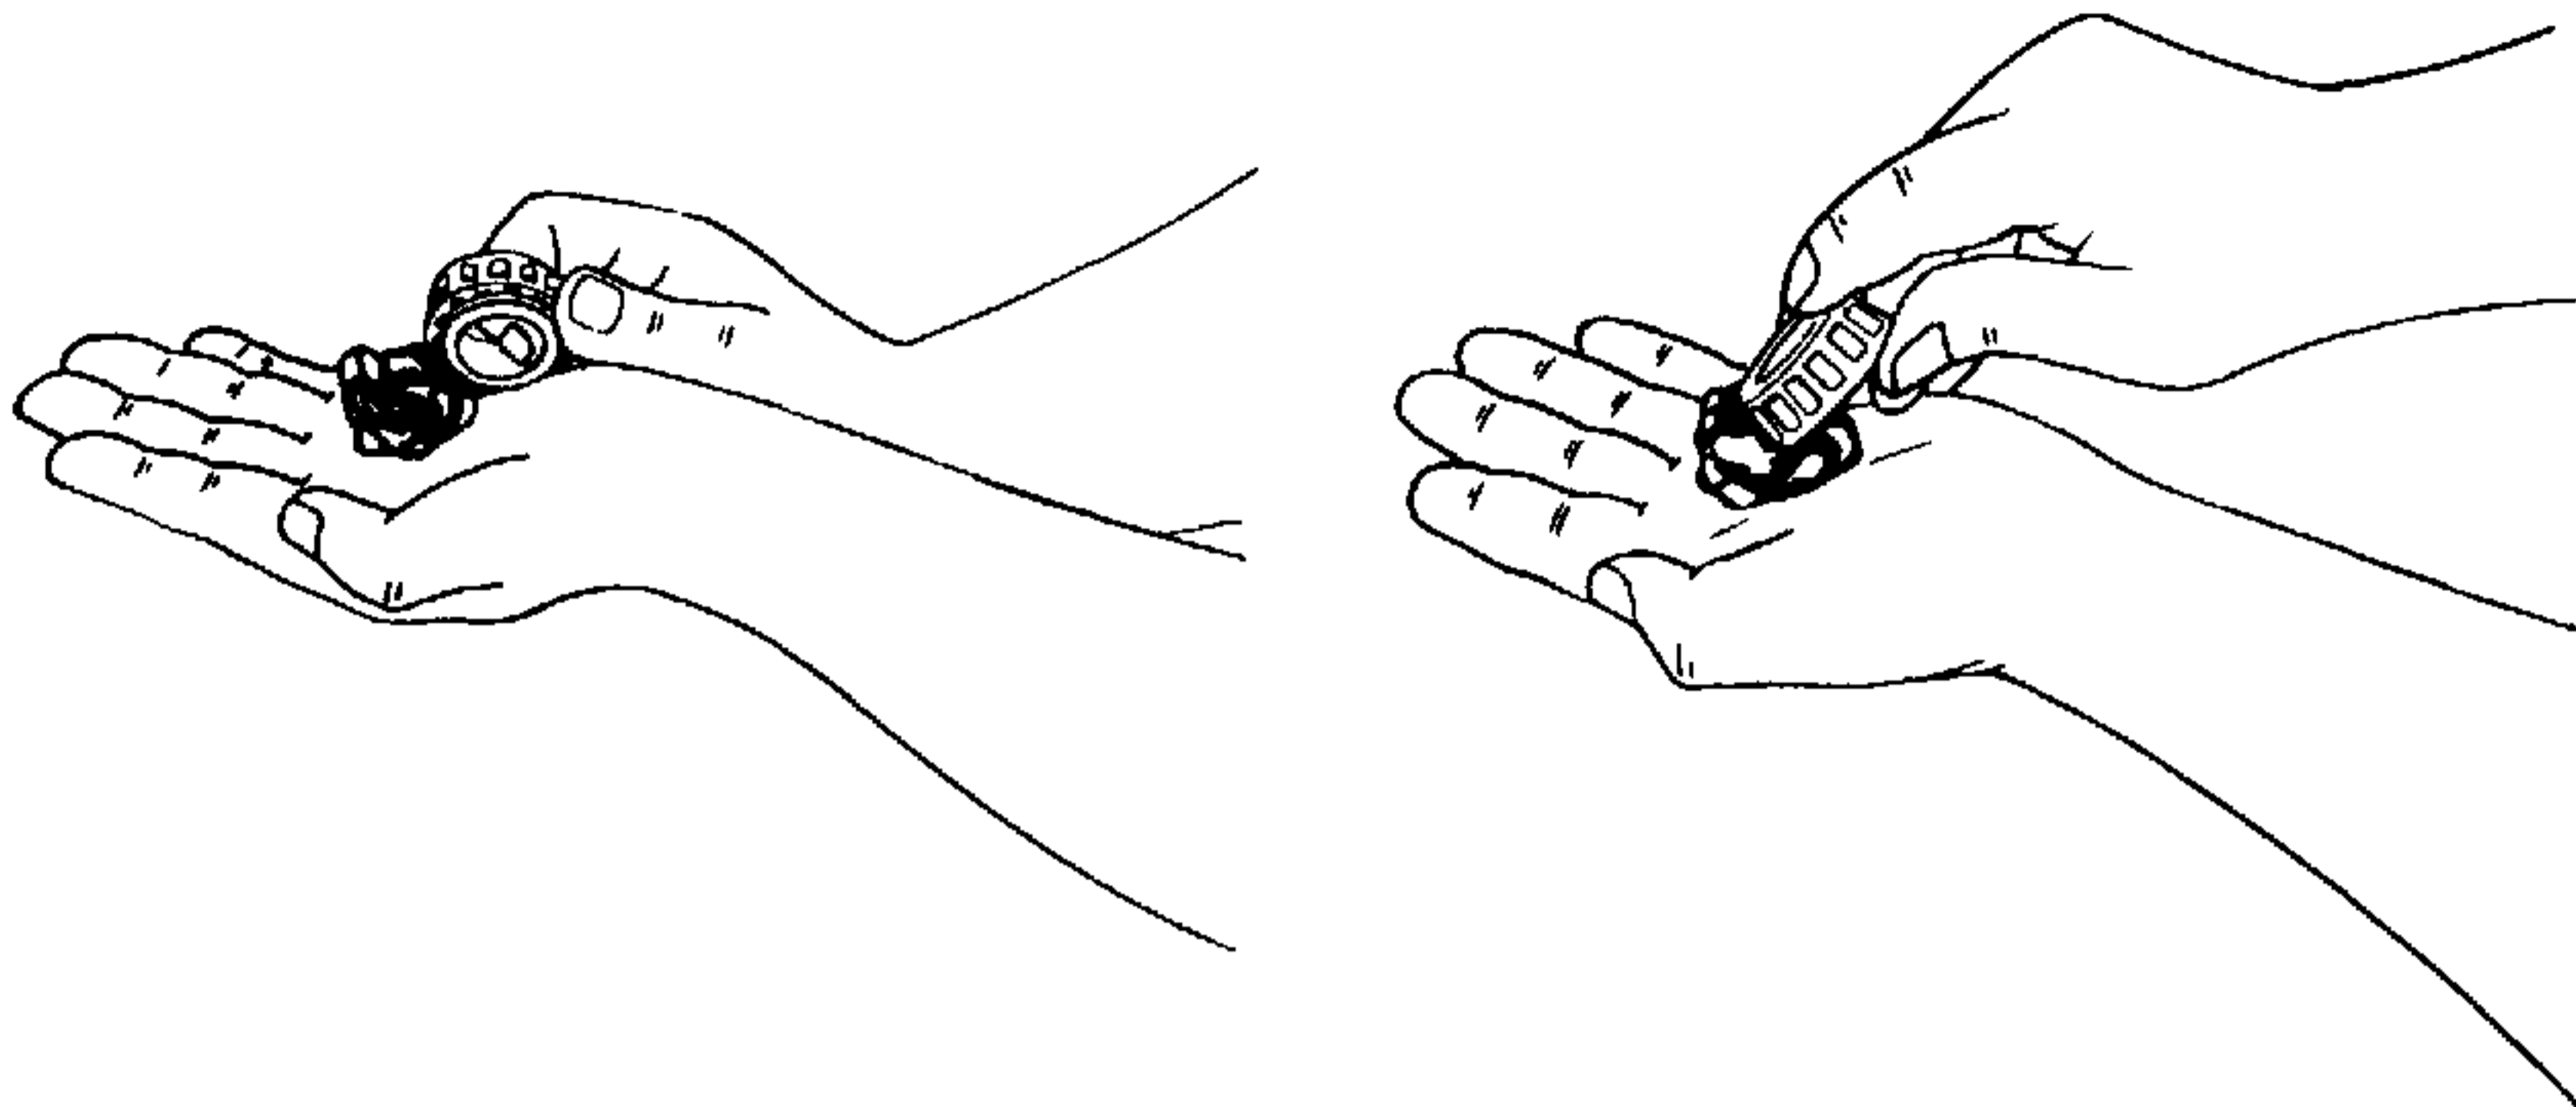

Figure 5-111. Packing Bearing Cones With Grease.
4. Pack bearing cones (15) with 251H EP grease using a bearing packer. If bearing packer is not available, refer to Figure 5-111 and pack by hand as follows: